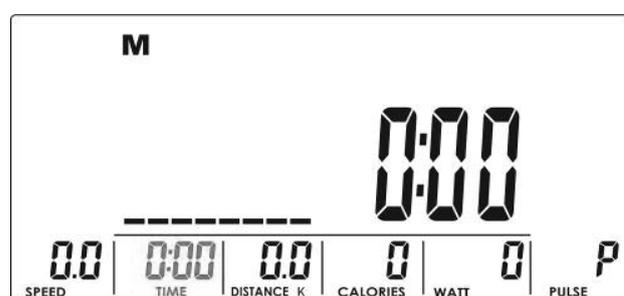
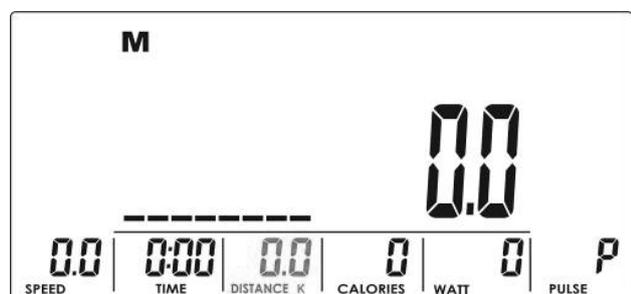
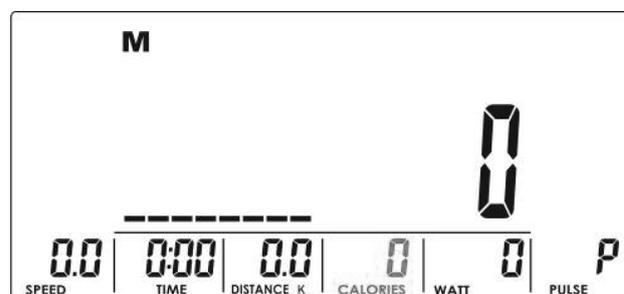
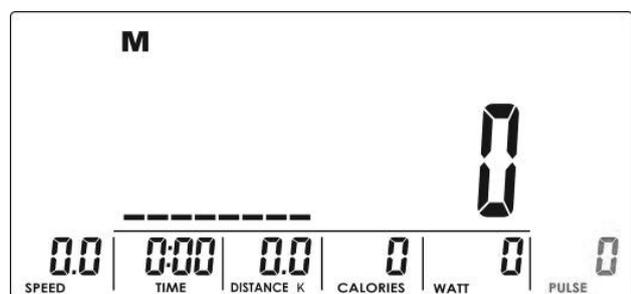

Figure 5
Figure 6
Figure 7
Figure 8
- (3) Enter the time (fig. 5), the distance (fig. 6), the calories (fig. 7), and the pulse (fig. 8) with the UP or DOWN buttons. Confirm your settings with MODE/ENTER.